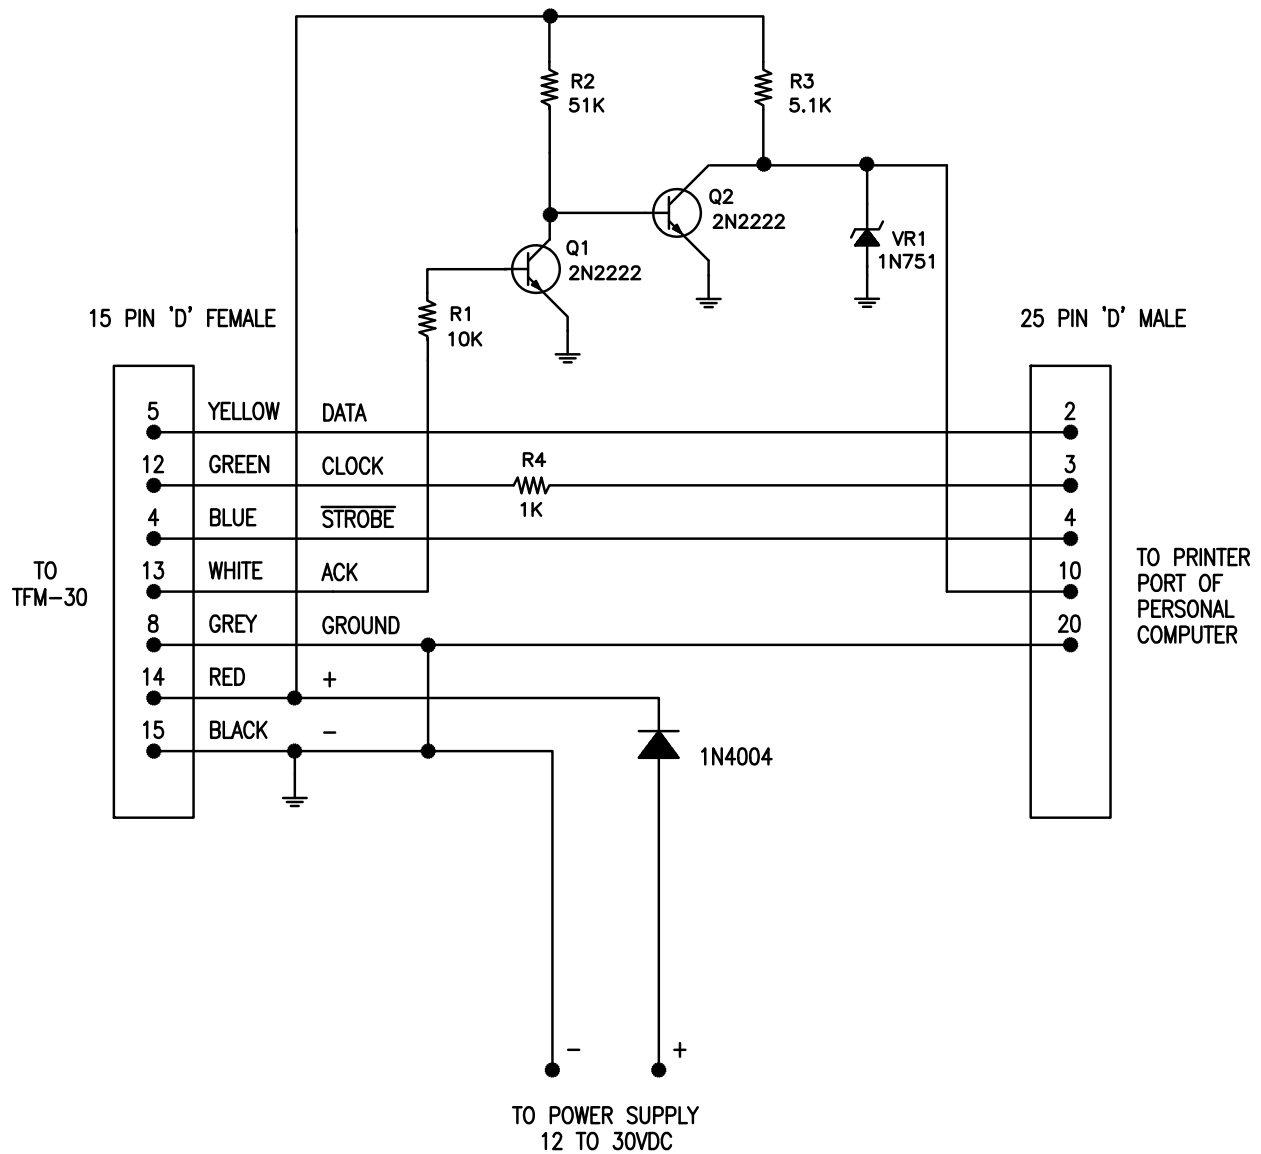

FIGURE 2.2 TFM-30 Transceiver PC Up/Download Cable - wiring diagram
Do not use cable P/N 943165-4 which is shown in FIGURE 2-2. It is for use with the DOS-program only.
- 3. PC Download cable (P/N 943165-4) see FIGURE 2-2.